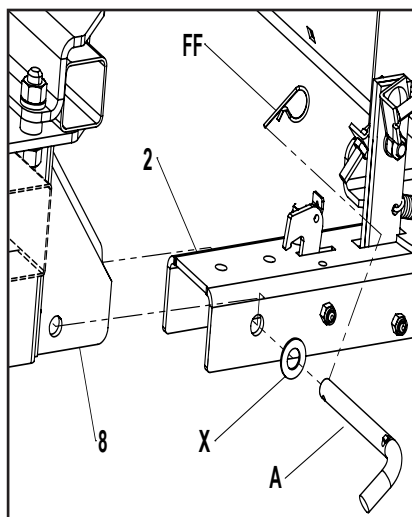

Figure 16
STEP 16: (SEE FIGURE 16)
- Insert the sub channel assembly into the Pivot support bracket, secure the assembly with pin (A), washer (X), and clevis pin (FF).